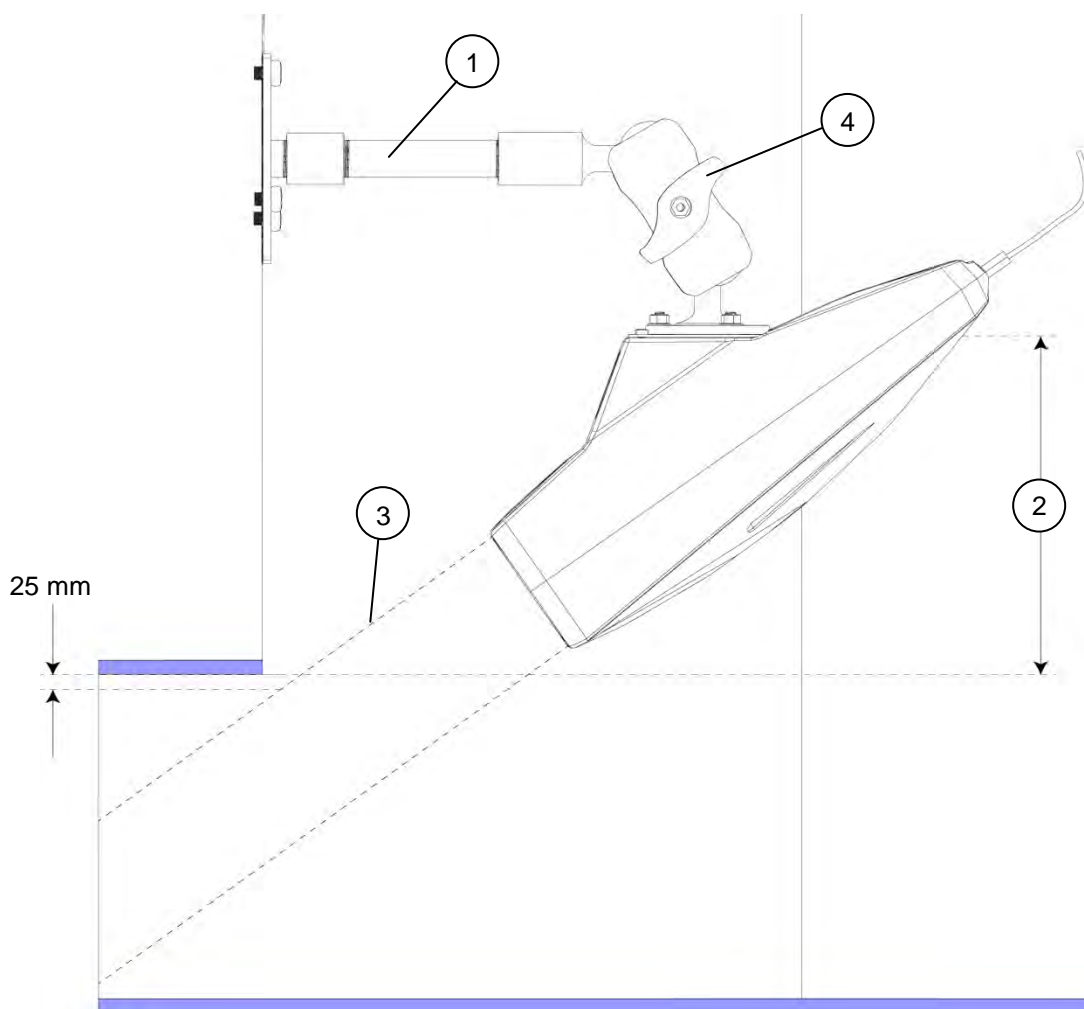
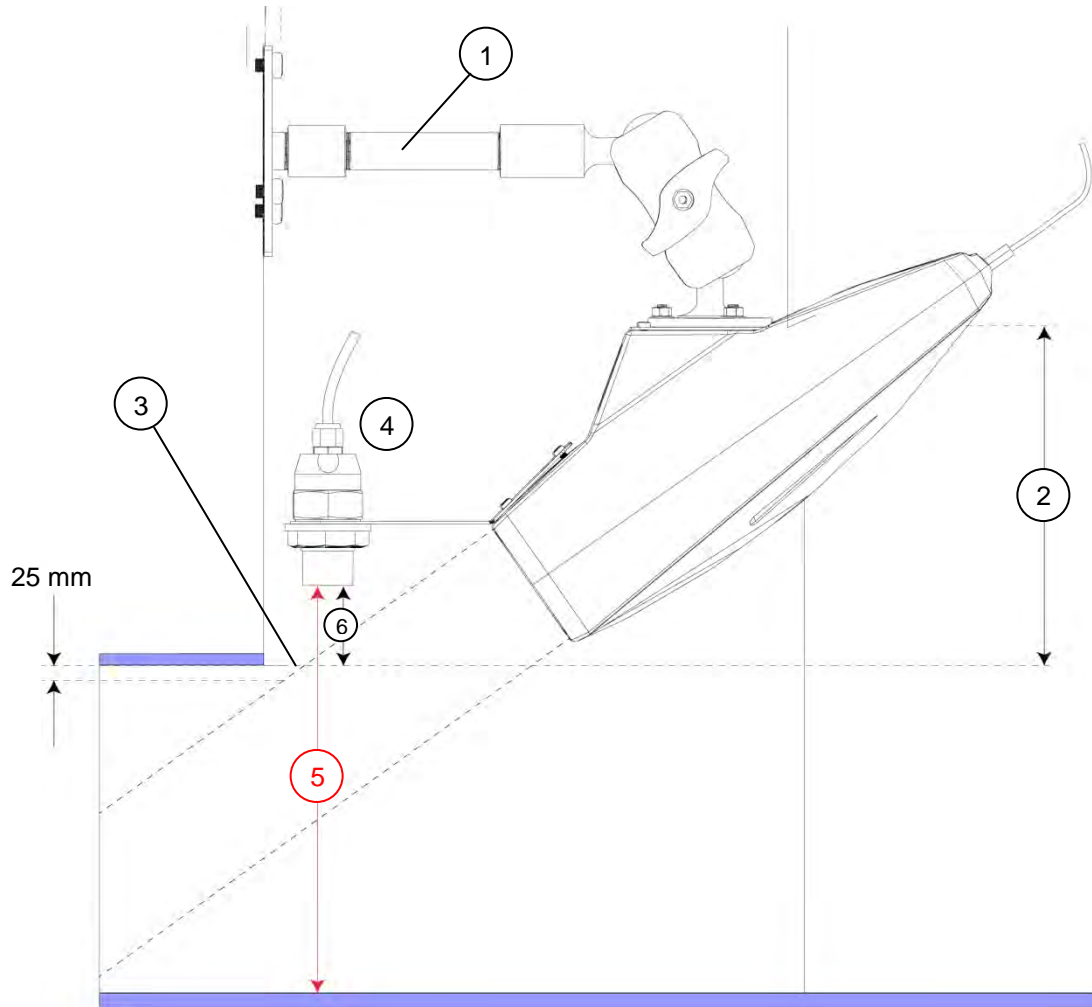

Figure 9: Vertical alignment of the RAVEN-EYE® sensor
Figure 11: Vertical alignment of the RAVEN-EYE® sensor with attached level sensor
2. Make sure that when the sensor is in position, the radar beam will not be blocked by the wall or channel. Refer to Figure 9 or Figure 11.
The sensor must be aligned vertically to make sure that the sensor is above the flow and that the radar beam will not be blocked by the wall or pipe (Figure 9).
1. Make an estimate of where a line that extends from the top of the radar lens perpendicular to where the lens will point (Figure 9).
2. Loosen the wing nut on the ball mount hardware and position the frame so that the radar beam will point below the crown of the pipe by at least 25 mm (Figure 9). It may be necessary to install the 200 mm or the 300 mm (optional) spacer to position the RAVEN-EYE® farther from the wall.
The sensor must be aligned vertically to make sure that the sensor is above the flow and that the radar beam will not be blocked by the wall or pipe (Figure 11).
1. Make an estimate of where a line that extends from the top of the radar lens perpendicular to where the lens will point (Figure 11).
2. Loosen the wing nut on the ball mount hardware and position the frame so that the radar beam will point below the crown of the pipe by at least 25 mm (Figure 11). It may be necessary to install the 200 mm or the 300 mm (optional) spacer to position the RAVEN-EYE® farther from the wall.